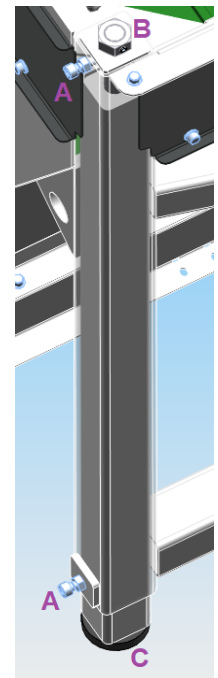

Figure 2. Adjustment feet
3. Position the machine. The machine works at its best when it has a minimum descent angle of 1 to 2 degrees. Use the adjustment feet to tilt the machine forwards (Figure 2). Loosen bolts A. Then, adjust the machine by turning nut B. Then, retighten bolts A. Evenly adjusting the pressure on the four adjustment feet is essential. This ensures that the machine is stable. The degree of expansion of the rubber adjustment feet, part C, best illustrates this (Figure 2).